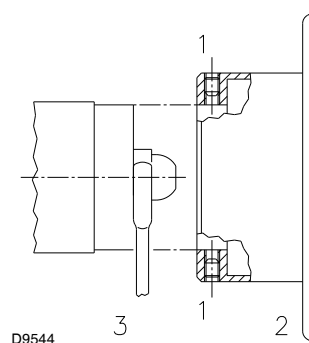

Fig. 16
- fitting the wrench through the central hole in the flame stability disk or loosen screws 1)(Fig. 16);
- remove disk 2)(Fig. 16) and replace the nozzles using the wrench 3)(Fig. 16).